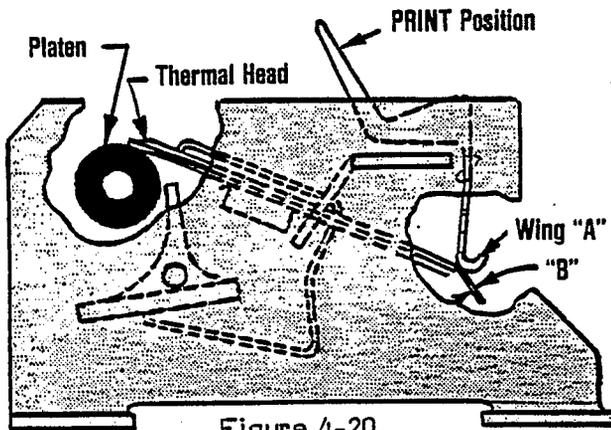

Figure 4-20.
1. With the head release lever in the forward or PRINT position, wing "A" of the lever should not touch the Thermal Head group. There must be visible clearance at "B" so that the Thermal Head group may rest on the platen; see Figure 4-20.